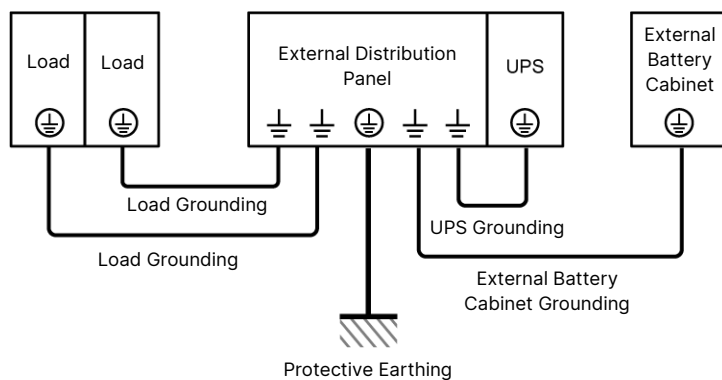
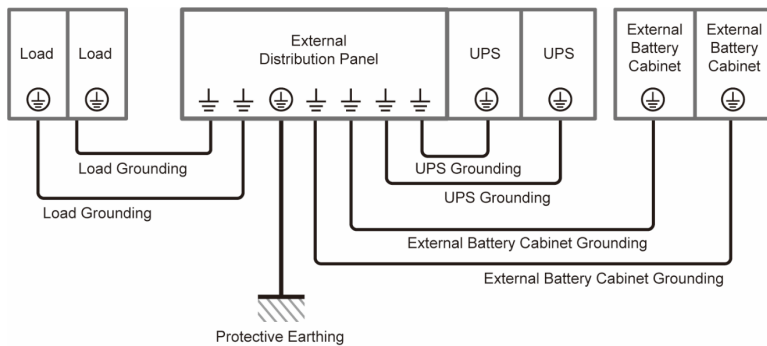

Figure 5-17: Grounding Diagram_ Single Unit
Figure 5-20: Grounding Diagram_ Parallel Units
Follow **Step 7** mentioned in **5.4.3.1 Single Input (Single Unit)** and refer to **Figure 5-17** to ground the UPS, external battery cabinet(s) and connected critical loads.
For single input, follow **Step 1 ~ Step 7** mentioned in **5.4.3.1 Single Input (Single Unit)**. As for the grounding diagram, please refer to **Figure 5-20** rather than **Figure 5-17**.
For dual input, follow **Step 1 ~ Step 4** mentioned in **5.4.3.2 Dual Input (Single Unit)**. As for the grounding diagram, please refer to **Figure 5-20** rather than **Figure 5-17**.
- For the external battery cabinet's grounding information, please refer to **Figure 5-17** and **Figure 5-20**.